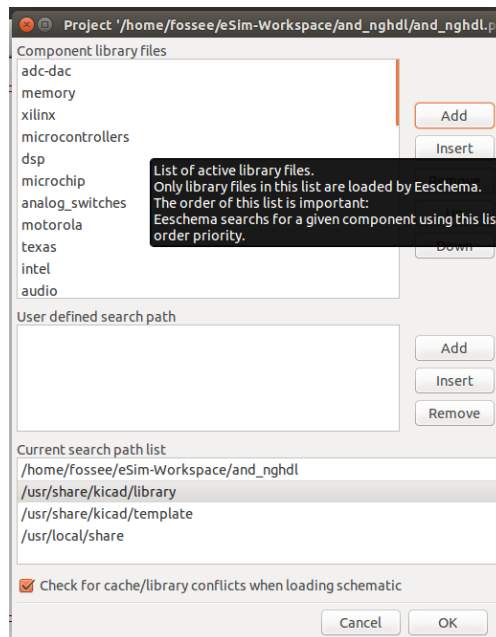
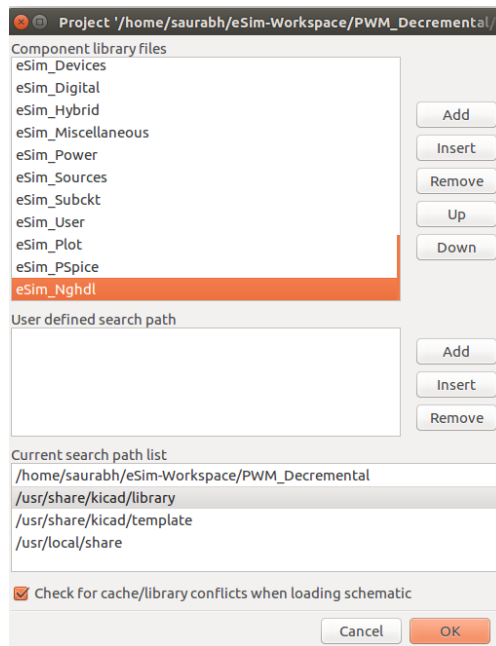

Figure 9.6: Adding the digital model library in KiCad
Figure 9.7: Selection of library
2. After successful upload of the model using the VHDL code, you can create the schematic of your design by clicking on **Open Schematic** button on the left pane of the eSim window. Then go to **Preferences** option on top of the schematic editor window and click on **Component Libraries** to add the library `eSim_Nghdl.lib` in KiCad. Following window will appear as shown in Fig. 9.6, where you will have to
click on *Add* button and select the eSim.Nghd1 library. Refer Fig. 9.6 and Fig. 9.7.